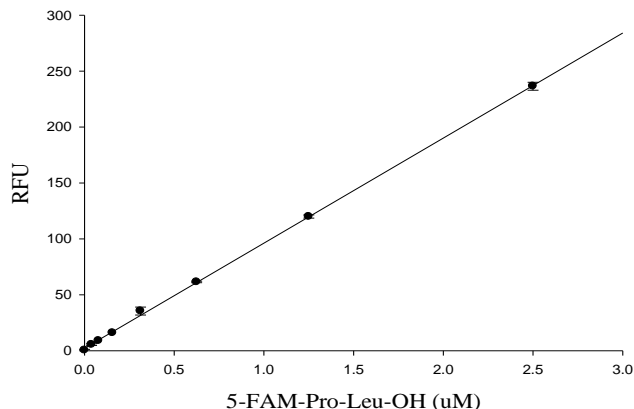

Figure 2. . 5-FAM-Pro-Leu-OH reference standard curve.
- Plot 5-FAM fluorescence reference standard as RFU (relative fluorescence unit) versus concentration as in **Figure 2**.